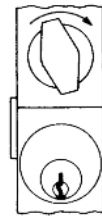

Figure 4-4
**D-11** Before closing door, activate new combination and turn the thumb turn to the right (clockwise) to ensure proper retraction of the latch (**See Figure 4-4**).